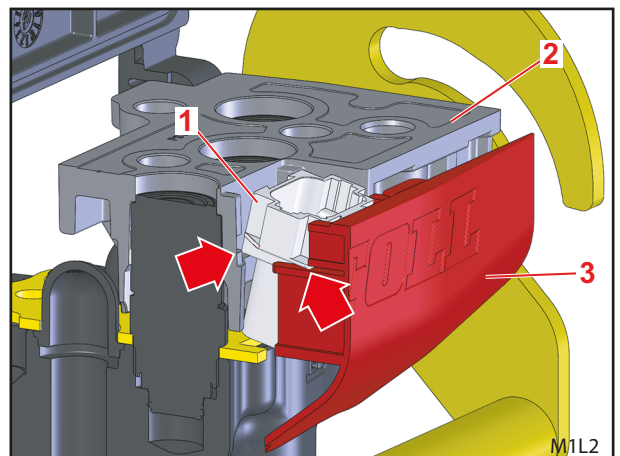

Fig. 14 Installing the Hydro-Fix lower part – Electric plug connector and cover
- (6) Slide the Hydro-Fix lower part on the valve (not all the way down).
- (7) Set the electric plug connector at a slight angle so that it slides into the guides and support plates (see arrows in Fig. 14) when you put the cover and the Hydro-Fix upper part together.
- (8) Slide the cover on completely, and at the same time, gently press down on the Hydro-Fix lower part.
- (9) Secure the Hydro-Fix lower part with the 5 screws M8x45.